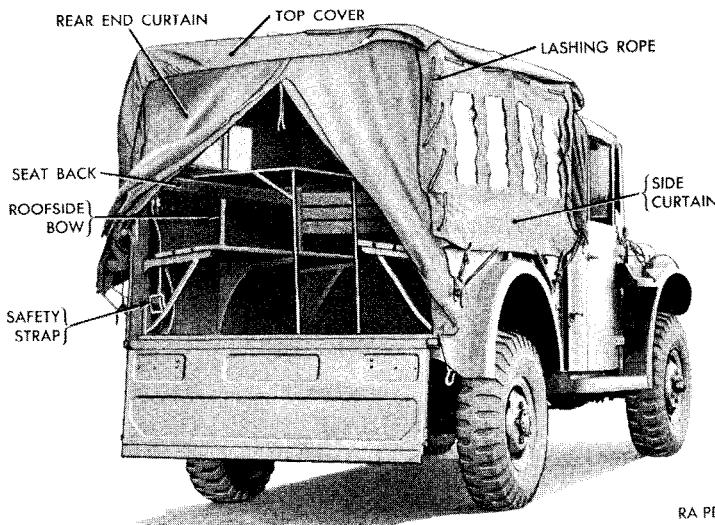

Figure 224. Top cover and curtains (command truck M42).
a. Removal (fig. 224).
- (1) Detach the body cover ropes from the three hooks on each side panel, and remove the body cover.
- (2) To remove the side curtains (command truck M42), detach the strap that secures the inside lower edge of each side curtain to the center roof side bow, remove the lashing ropes and holddown ropes, and remove the curtains.
- (3) Detach the end curtain holddown ropes from the two hooks on the tailgate or the hooks on the front of each side panel. Remove the lashing rope that secures each curtain to the roof bow and remove the end curtains.
- (4) Remove the nut, lockwasher, and bolt that secure each roof side bow to the seat back supports and remove the bows and ridge pole as a unit.
- (1) Detach the safety strap (fig. 224) from the two eyebolts in the seat back lower boards and remove the strap.
- (2) Remove the nut and lockwasher from each eyebolt, and remove the two bolts and flat washers.
- (3) Place a $1\frac{3}{32}$ -inch inside diameter flat washer on each eyebolt. Install the eyebolt through the upper hole at the rear of the